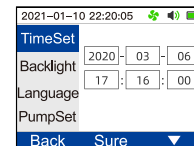

Figure 19
Select the system setting in the main menu of the detector, and click the middle button to enter the system setting interface (Figure 19). The setting options include: time setting, backlight setting, language setting, pump setting.
**Time setting:** Follow the navigation bar prompts to set the system time (Figure 19).